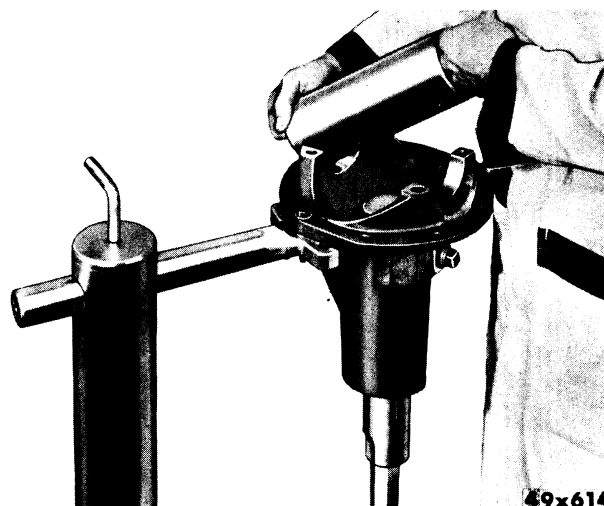

Fig. 37—Installing Cross Bore Gauge Bar
- (2) Assemble **cross bore gauge bar** to carrier bearing supports, as shown in Figure 37. Tighten cap screws to hold bar in place.